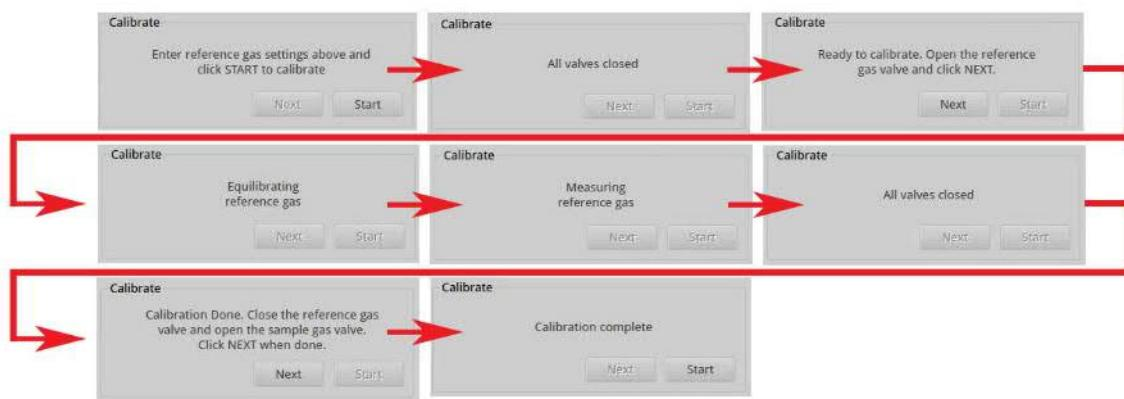

Figure 34: Calibration Flow
8. Each step is displayed in the lower-right panel of the calibration screen as the analyzer performs the calibration. Figure 34 shows the calibration process as a flow chart.